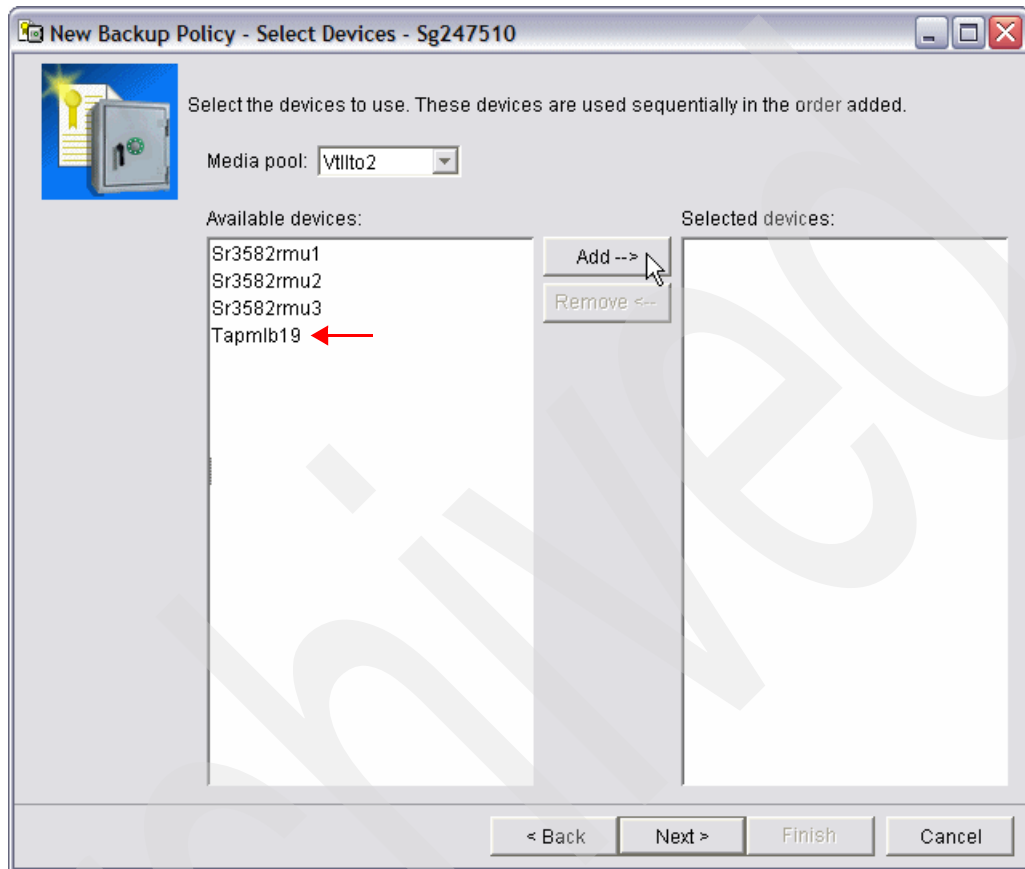

Figure 6-61 New Backup Policy - Select Devices (adding)
19. This opens the Select Drives window shown in Figure 6-61. Our library is TAPMLB19.